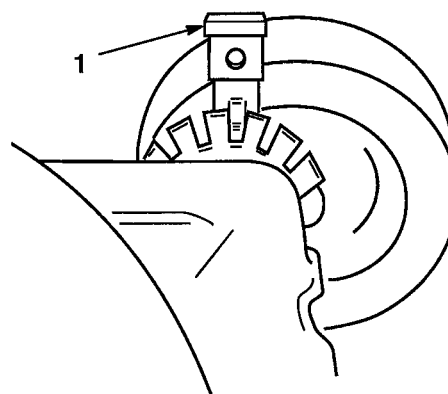

Figure 16
1. To change cutting height pull adjusting lever toward wheel and move to the desired position (Fig. 16).